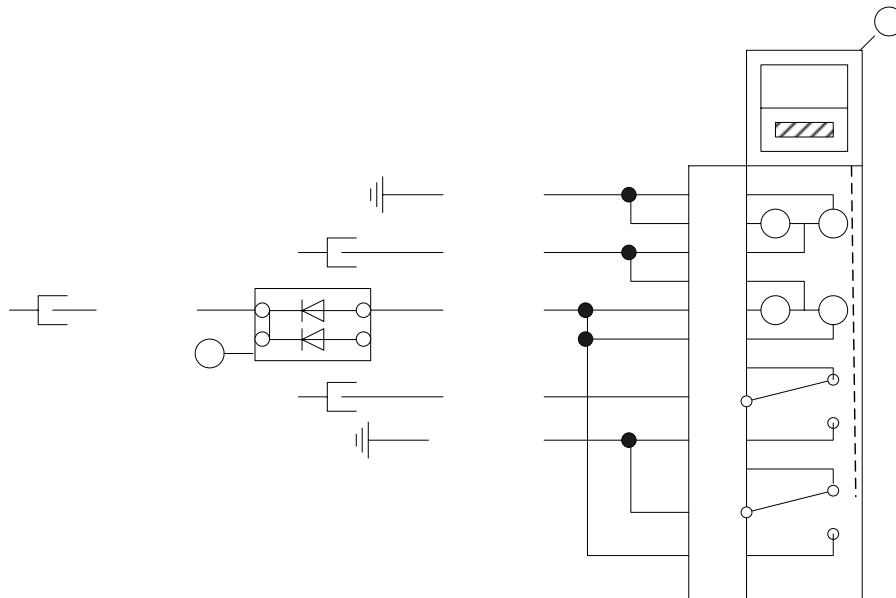

Figure 5 LOW ALTITUDE Switch Wiring
4. Using the Aerospace Optics Connector Kit (Item 3), a Diode Module (Item 4) and new wires, modify the aircraft to complete the installation as shown in Figure 5.